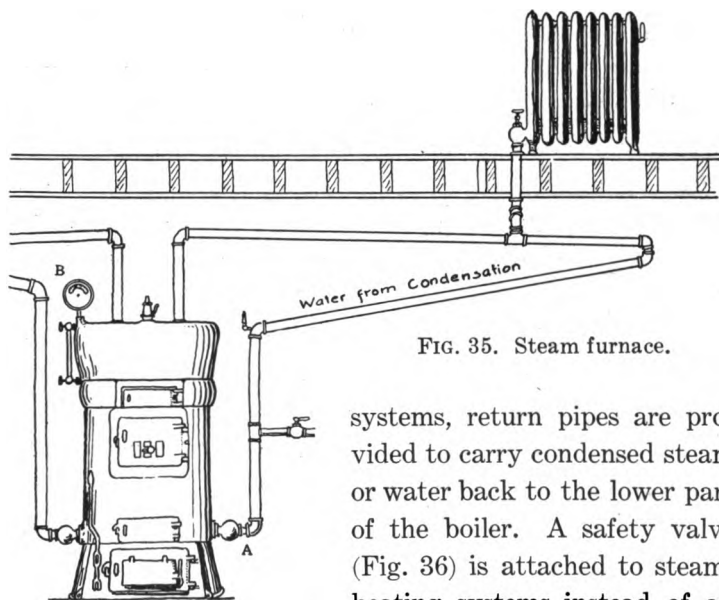
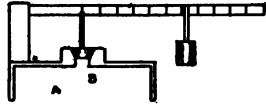
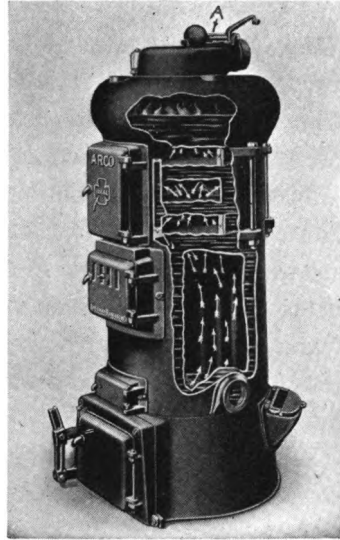

FIG. 35. Steam furnace.
FIG. 36. Safety valve.
FIG. 38. Heating plant showing safety valve.
**70. Equipment for Steam Heat.** A steam-heating system consists of a boiler, a fire pot, pipes from the boiler leading to the radiators, and radiators (Fig. 35). On some
systems, return pipes are provided to carry condensed steam or water back to the lower part of the boiler. A safety valve (Fig. 36) is attached to steam-heating systems instead of an expansion tank. This keeps the pressure of the steam in the boiler from becoming too great, and thereby prevents an explosion. The pressure gage (*B*, Fig. 35) must be set, and, when set, should only be changed by a person understanding it. Build and manage the fire for a steam boiler the same as
**71. Steam Gages.** Steam gages (*B*, Fig. 35) are devices for indicating the pressure of steam within an inclosure. They are a kind of spring balance. When the pressure of the steam increases, it pushes up on the spring, and this turns the hand of the indicator, which shows the number of pounds of pressure that the steam is exerting on the inside of the boiler or container.
**72. Safety Valve.** A safety valve (Fig. 36 and *A*, Fig. 38) consists of a small opening to a boiler over which is a weight. When steam is developed until it makes enough pressure on the inside of the valve to raise this weight, some of the steam escapes, thus lowering the pressure on the inside until the weight falls back into place. Never let anything interfere with the action of safety valves.